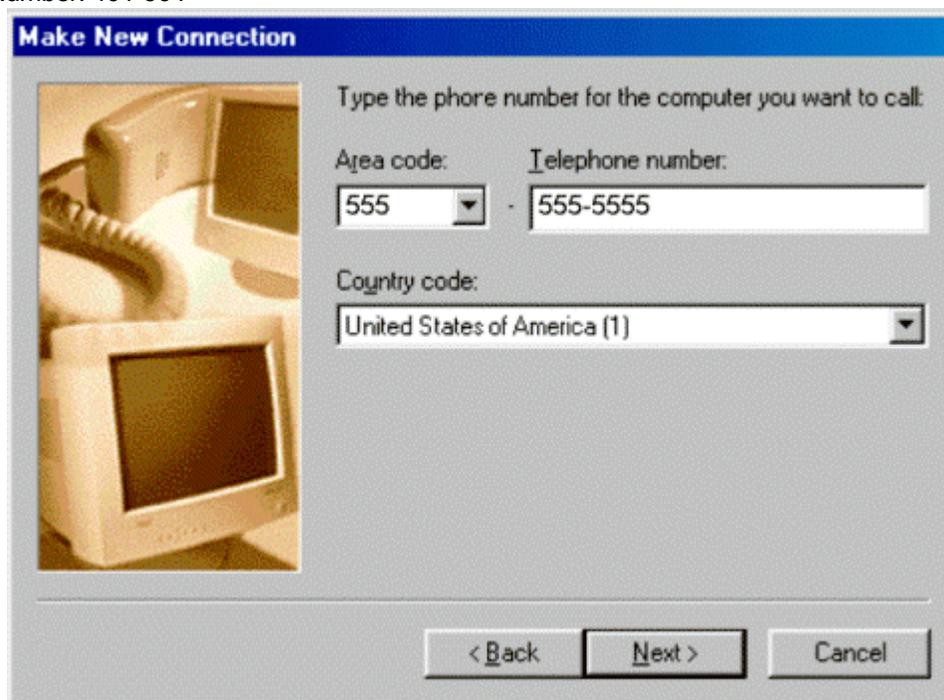

Figure 23 Phone Number
- Click **Next** (see Figure 23).